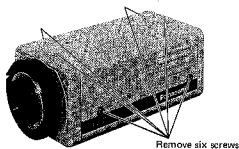

Fig. 2-2
- Remove six screws fixing upper cover and remove upper cover by pulling it upward. (Fig. 2-2)